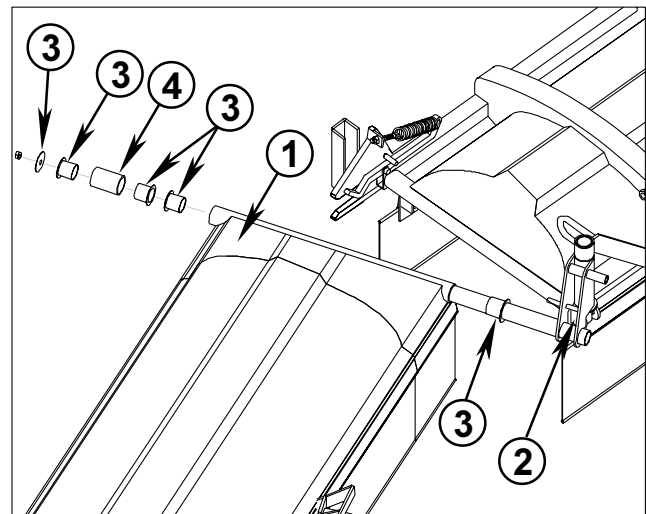

FIG. 8
2. Assemble the (2) curved Castor Mounts into Right and Left Boom Extensions using (4) 1/2" x 3" carriage hd. bolts and ensuring that bolt heads are on the "hood opening" side. The Castor Mounts should curve toward the sprayer. Assemble Wheels onto (2) Castor Forks with the short shafts using (2) 3/4" O.D. x 6" bushings, (2) 1/2" x 7-1/2" hex hd. cap screws and lock nuts. Assemble Castor Forks onto Castor Arms using 3/16" x 1-1/2" cotter pins. (Refer to Page 14)
3. Lightly grease Right and Left Boom horizontal pivots where bushings will rotate. Assemble Right and Left Booms onto Boom Center Section / Horizontal Pivot Joint as per FIG. 8 ensuring that bushings are properly seated. Torque the wing retainer lock nuts to 25 ft. lbs.